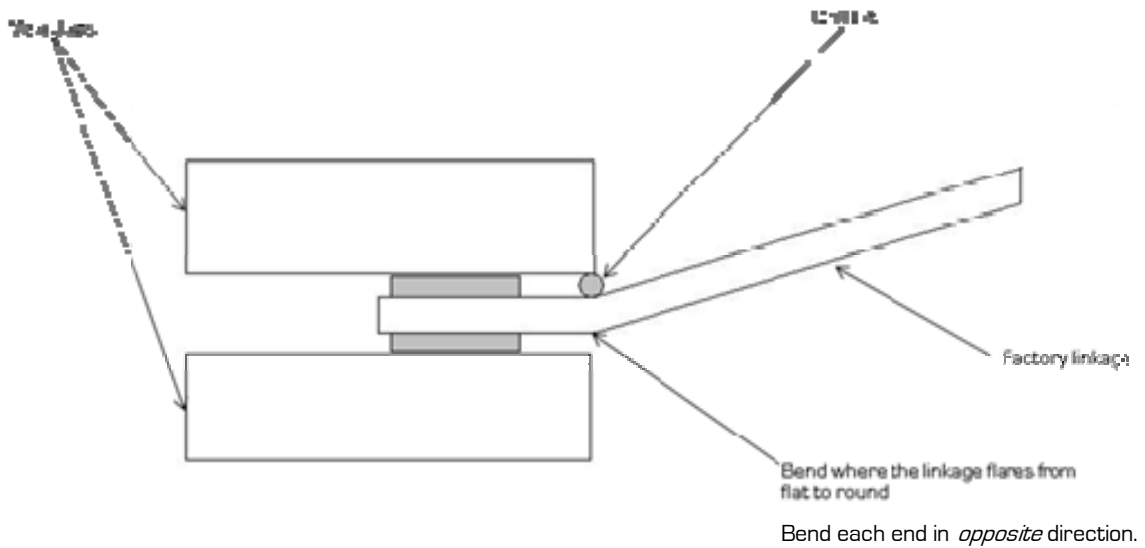
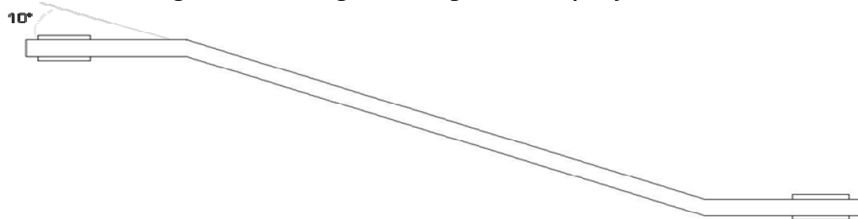

Figure 2a. Bending the Linkage Ends Properly
Figure 2b. Modified Wiper Linkage
8. Using a bench vise, bend the factory wiper linkage slightly (about 10 degrees) to accommodate for the difference in the new pitman arm position. An appropriately sized drill bit can be placed in the vise with the linkage end to help protect the bushings in the linkage and ensure proper bend location. See *Figure 2a*. The final linkage shape is shown in *Figure 2b*.